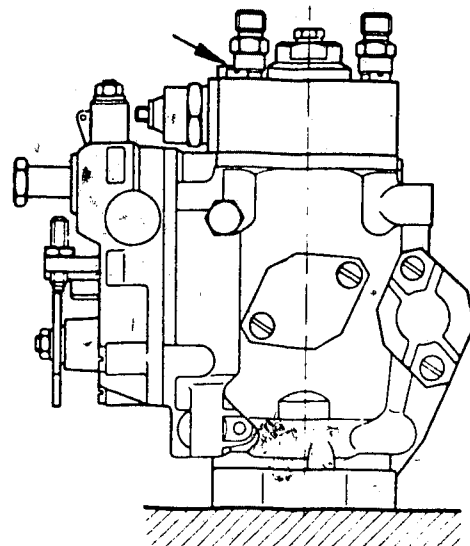
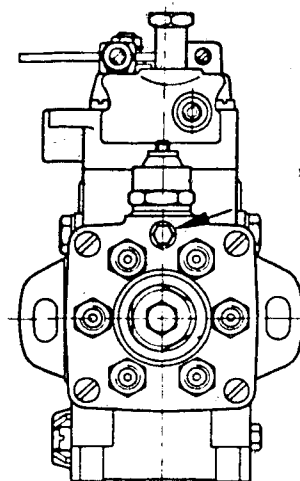

Fig. 4
Fig. 5
On various models of distributor-type fuel-injection pump (VE) a hexagon-socket-head cap screw is positioned below the solenoid valve (arrows in Fig. 4 and Fig. 5).